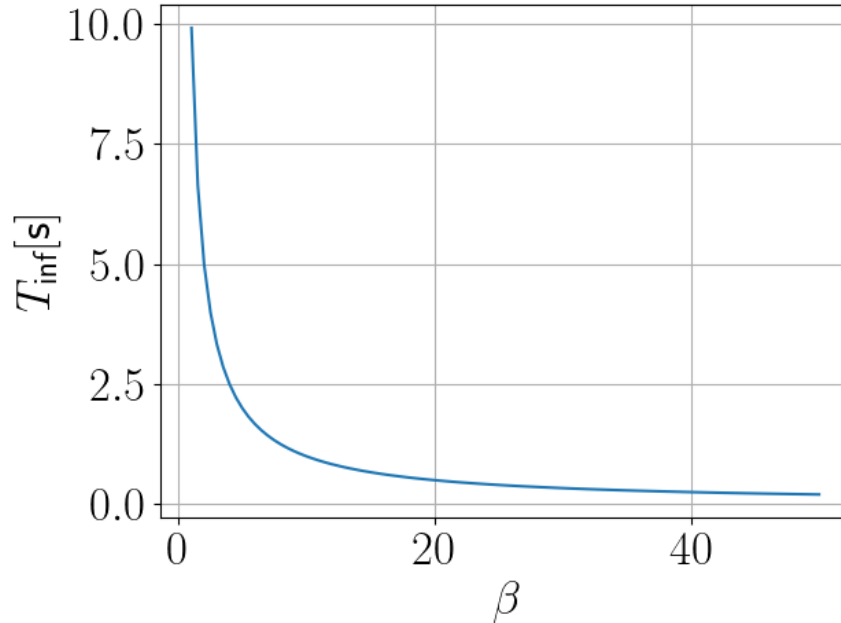

Figure 2: The considered hardware architecture in Problem 1.
In this problem, consider the simple compute architecture shown in Figure 2, constituting of a processor **P** and a memory **M**. The processor has a peak performance of 450 GMACs/sec with an arithmetic efficiency of 0.5 pJ/MAC. The memory read (write) bandwidth is 50 (20) Mbits/sec while consuming 10 (20) nJ/bit. The processor and memory are linked with a two-way communication bus, which is assumed to be ideal, that is, it has unlimited data transfer throughput and zero energy consumption.
In this problem, we will consider again the compute architecture presented in Figure 2. Some of the simplifying assumptions presented in Problem 1 for NN mapping will be removed. Let's consider the fifth convolutional layer (**C5**) in VGG-16 (see <https://github.com/pytorch/vision/tree/master/torchvision/models>), which comprises of 256 kernels, each of size $3 \times 3 \times 128$ (we will ignore the bias in this problem) and takes in input feature maps of size $56 \times 56 \times 128$. Unless specified otherwise, assume all datatypes are quantized to 8b.